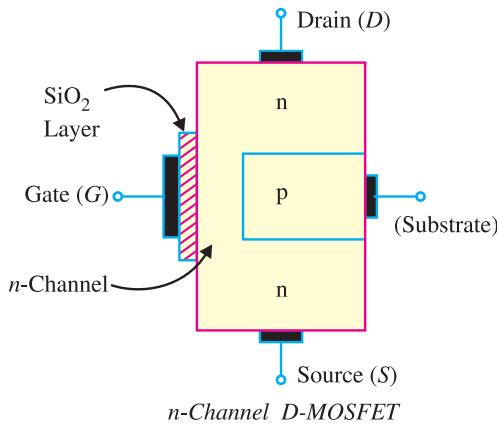

Fig. 19.43
**1. D-MOSFET.** Fig. 19.43 shows the constructional details of *n*-channel *D-MOSFET*. It is similar to *n*-channel *JFET* except with the following modifications/remarks :
(i) The *n*-channel *D-MOSFET* is a piece of *n*-type material with a *p*-type region (called *substrate*) on the right and an *insulated gate* on the left as shown in Fig. 19.43. The free electrons ( $Q$  if it is *n*-channel) flowing from source to drain must pass through the narrow channel between the gate and the *p*-type region (*i.e.* substrate).